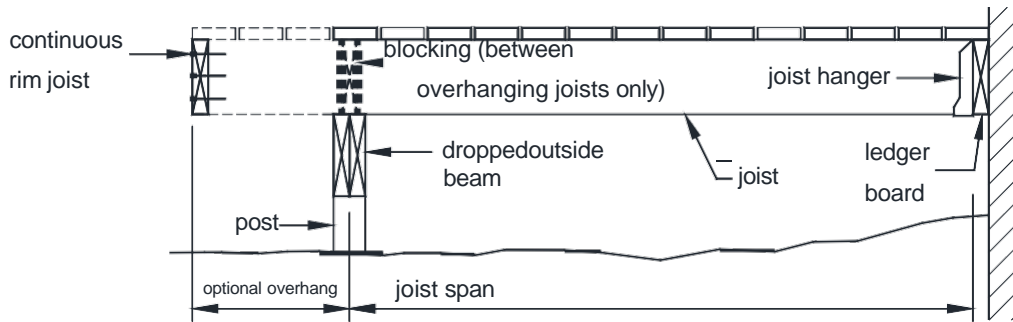
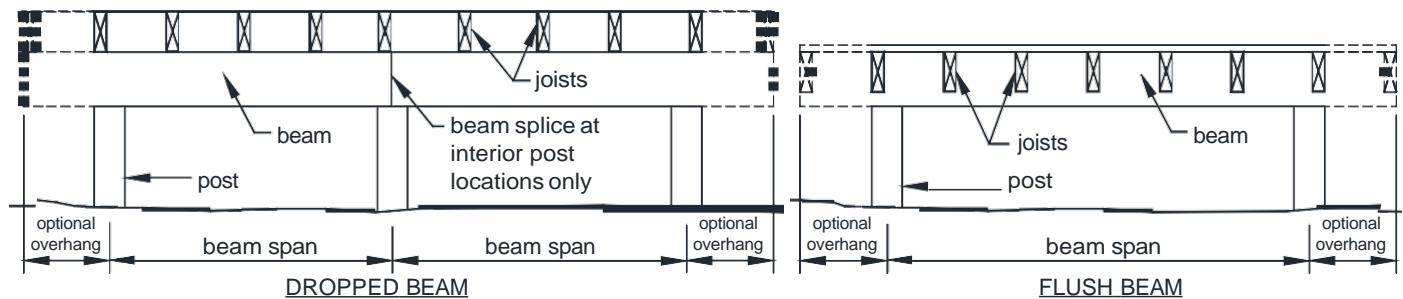

FIGURE 3: SINGLE SPAN DECK - JOISTS ATTACHED AT HOUSE WITH DROPPED BEAM
FIGURE 11: BEAM TYPES
- Single span decks are framed with joists that have one span between supports (not including overhang) as shown in FIGURES 3 and 4. Multi-span decks have joists with more than one span which bear on multiple beam as shown in FIGURES 5 and 6.
- Attach a continuous rim joist or blocking at the joist ends as shown in FIGURES 3, 5 and 7. Attach a rim joist to the end of each joist with (3)10d nails or (3) #10 by 3-inch wood screws.
- Dropped beams have joists bearing above; flush beams have joists with hangers bearing on its sides; see FIGURES 3 through 7 and FIGURE 11.
- Beam span length, as shown in FIGURE 11, is measured between the centerlines of two adjacent posts and does not include the beam overhangs.
- Beam plies are permitted to have splices. However, splices shall be located at post connections as shown in FIGURE 11.